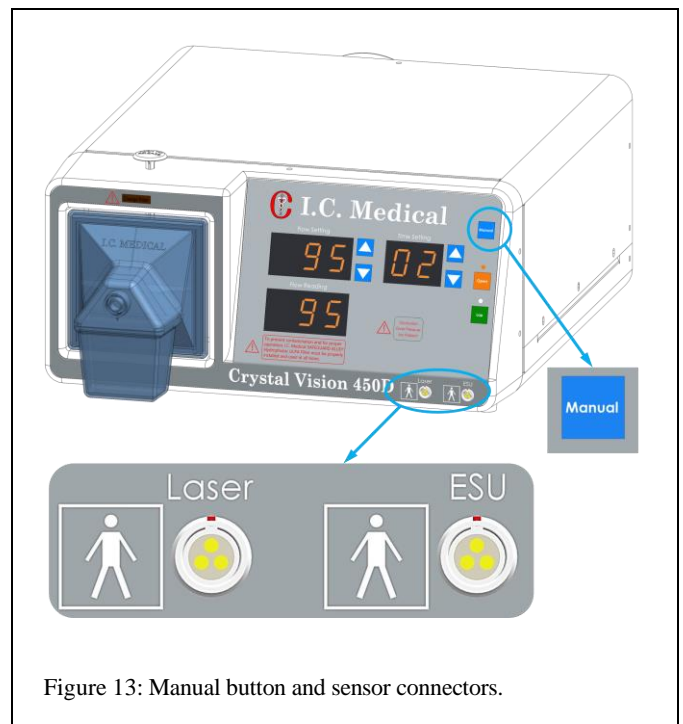

Figure 13: Manual button and sensor connectors.
2. MANUAL button (Figure 13) used to turn the CRYSTAL VISION® ON when the surgeon is not activating a smoke-producing device. The MANUAL button can be used to clear residual plume during these situations in (LAP) procedures. It can also be used to clear smoke and plume if more than one device is used and only one sensor is available. This frequently occurs during laser cases when a sensor is attached to the laser foot pedal and other sensors are not available to be attached to an Electrosurgical Unit (ESU).
3. LASER CONNECTOR (Figure 13) is the input for the LASER SENSOR CABLE. In reality, both LASER & ESU connectors are identical and either will accept all standard I.C. Medical sensor assemblies.
4. ESU CONNECTOR (Figure 13) is the input for the ESU SENSOR CABLE. This sensor can be used to activate the CRYSTAL VISION®.